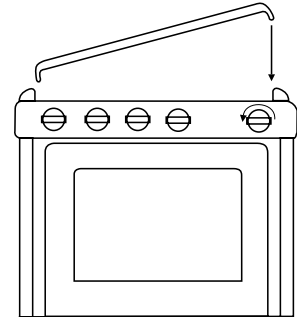

Fig. 6-2
- Gently press other end of the grate downward to “snap” the grate into place. (Fig. 6-2)